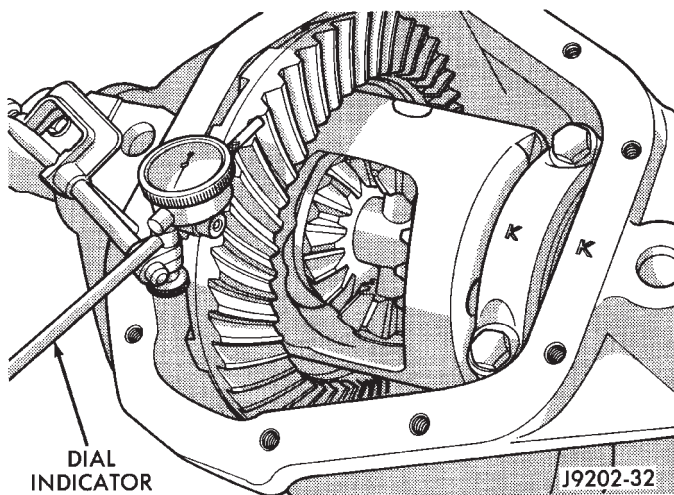
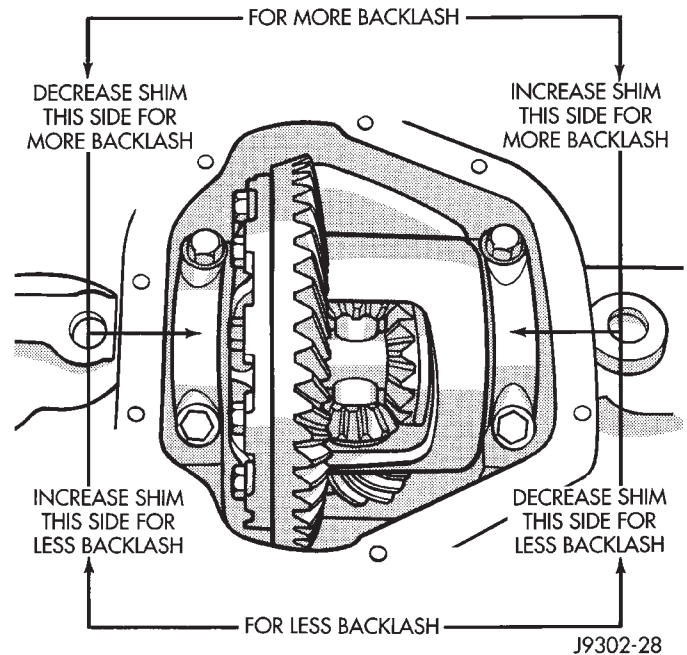

Fig. 73 Ring Gear Backlash Measurement
Fig. 74 Backlash Shim Adjustment
- (31) Install differential case in axle housing.
- (32) Rotate the differential case several times to seat the side bearings.
- (33) Position the indicator plunger against a ring gear tooth (Fig. 73).
- (34) Push and hold ring gear upward while not allowing the pinion gear to rotate.
- (35) Zero dial indicator face to pointer.
- (36) Push and hold ring gear downward while not allowing the pinion gear to rotate. Dial indicator reading should be between 0.12 mm (0.005 in.) and 0.20 mm (0.008 in.). If backlash is not within specifications transfer the necessary amount of shim thickness from one side of the differential housing to the other (Fig. 74).
- (37) Verify differential case and ring gear runout by measuring ring to pinion gear backlash at several locations around the ring gear. Readings should not vary more than 0.05 mm (0.002 in.). If readings vary more than specified, the ring gear or the differential case is defective.